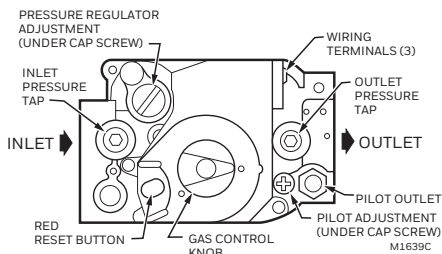
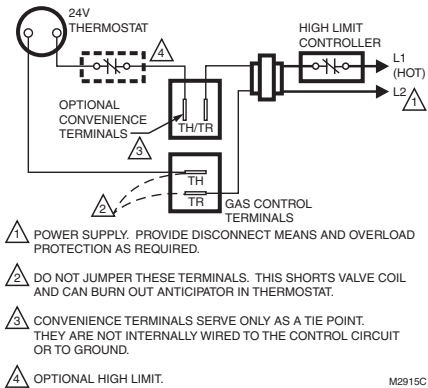

Fig. 1. Top view of gas control.
Fig. 8. Wiring connections for 24 volt control.
2. Remove the regulator cap screw and pressure regulator adjusting screw. See Fig. 1.
- 6. Connect pipe to gas control inlet and outlet. Use wrench on the square ends of the gas control. If an adapter is used, place wrench on adapter rather than gas control. Refer to Fig. 1 and 5.
- 3. Unscrew compression fitting from the pilot outlet (Fig. 1). Slip the compression fitting over the tubing and slide out of the way.
2. Connect control circuit to gas control terminals. See Fig. 1 and Fig. 8.